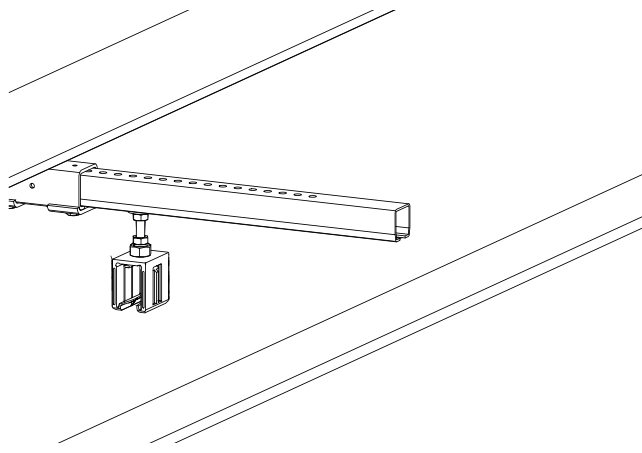

Fig. 52: First hanger clamp slid onto the support arm and tightened
- Tighten the first hanger clamp with the specified torque (SW 17, torque wrench: 14 Nm) (see Fig. 52).